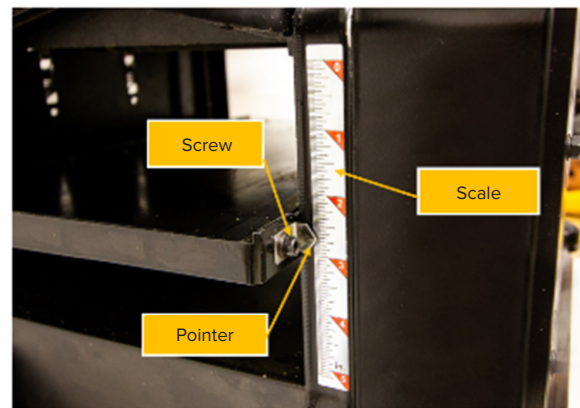

Figure 41: Planer's scale components.
3. If there is a discrepancy between the board's thickness and the reading on the height scale, loosen the cap screw shown in Figure 41, adjust the arrow's position to indicate the correct thickness, then tighten the screw.